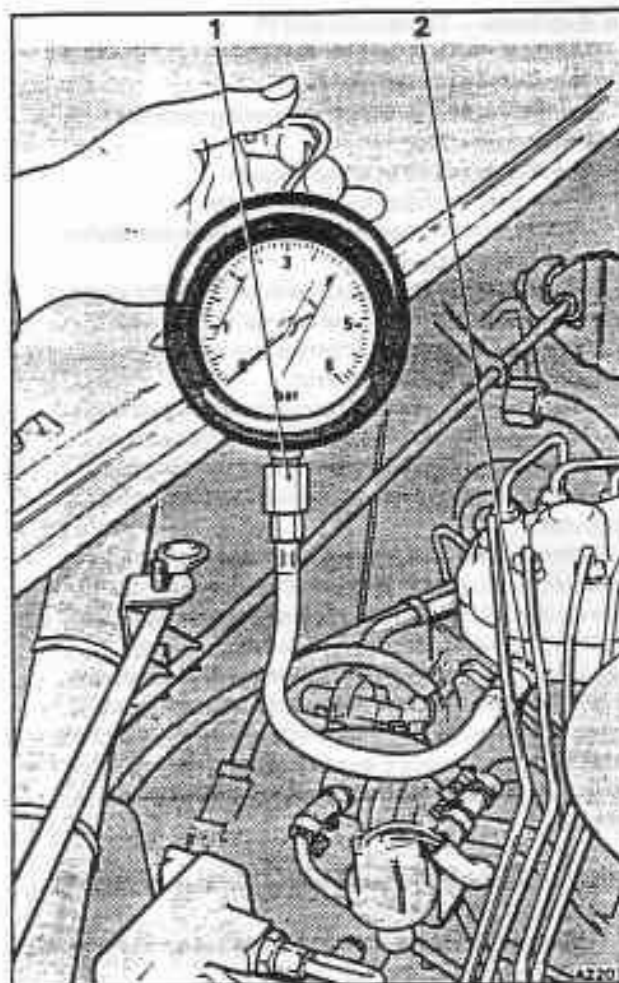

Fig. B3-35 Pressure tester equipment – testing differential (lower chamber) pressure
- c. Differential fuel pressure (see fig. B3-35).